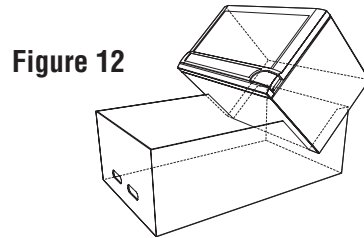

Figure 12
3. Position oven to assist in mounting to the wall. See Figure 12.